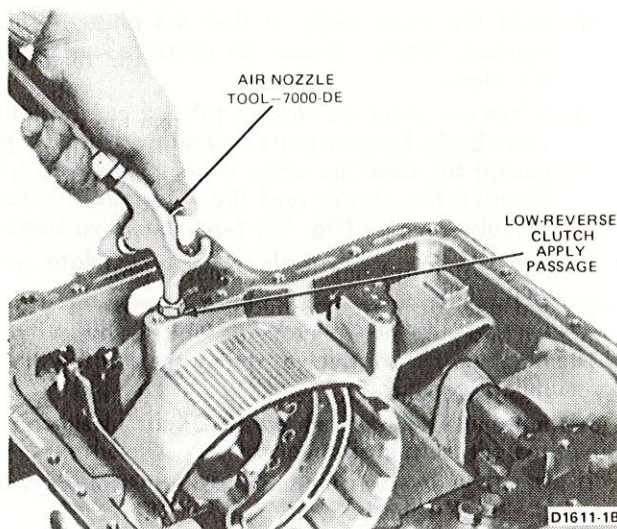

FIG. 19 Removing Low-Reverse Clutch Piston
23. Remove the low-reverse clutch piston from the case as shown in Fig. 19.